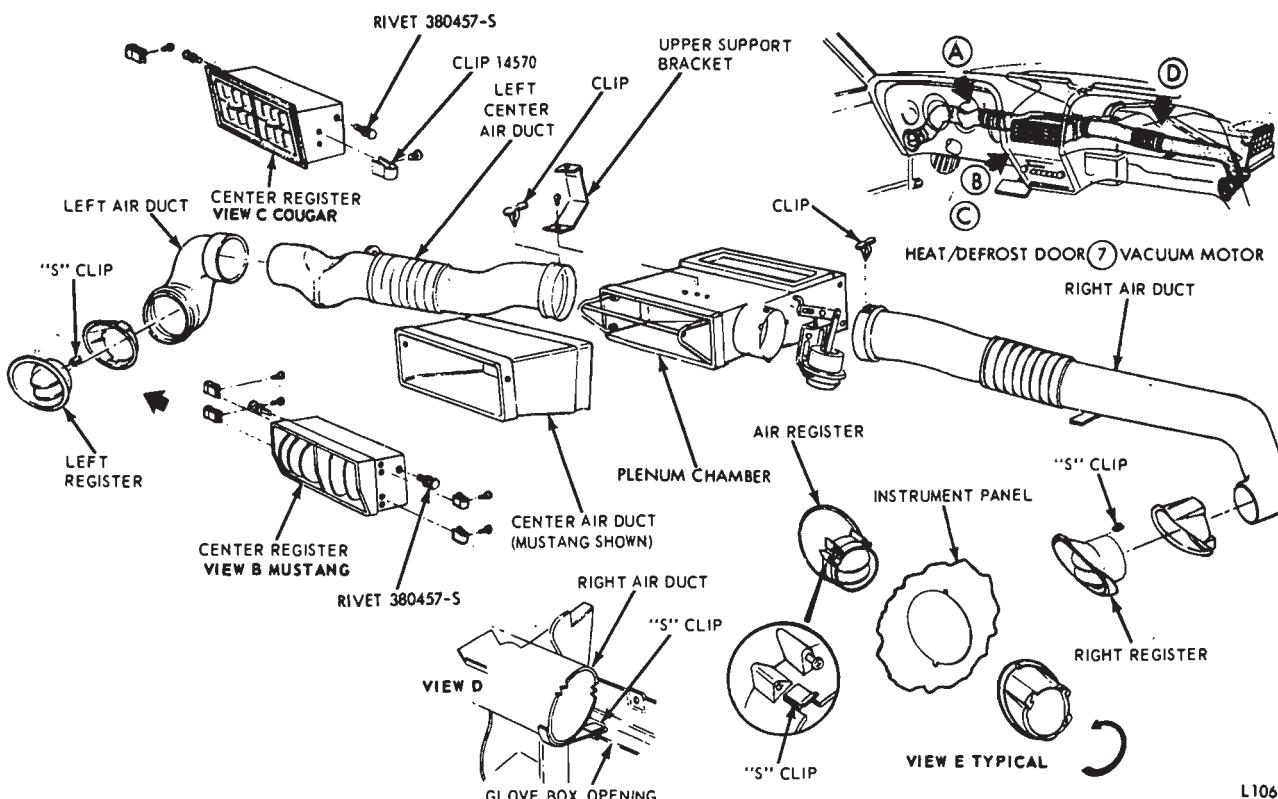

FIG. 47—A/C Registers and Ducts—Mustang and Cougar
Remove the instrument panel pad (Group 47). Remove the rivets attaching the center register to the center air duct (Fig. 47). Then, remove the register attaching screws and remove the register.
Disconnect the air duct from the register. Loosen the three register retainer screws about 3/8 inch (Fig. 47). Then, twist the retainer counter-clockwise to unlock the register and remove the register.
Remove the instrument panel pad (Group 47), and the center air duct (Fig. 47). Remove the air duct retaining clips and disconnect the air ducts from the plenum chamber. Disconnect the upper support bracket from the duct and the hose from the heat/de-frost door (7) vacuum motor. Then, remove the plenum chamber.
Disconnect the air duct from the register. Remove the clip retaining the duct to the plenum chamber. Disconnect the right and left air ducts from the S-clips (Fig. 47, View D) and remove both air ducts.
16. Disconnect the right and left air ducts from the Plenum Chamber (Fig. 47) and remove the air ducts.
16. Install the plenum chamber and connect the vacuum hose to the vacuum motor (Fig. 47).
17. Connect the air ducts to the plenum chamber (Fig. 47).